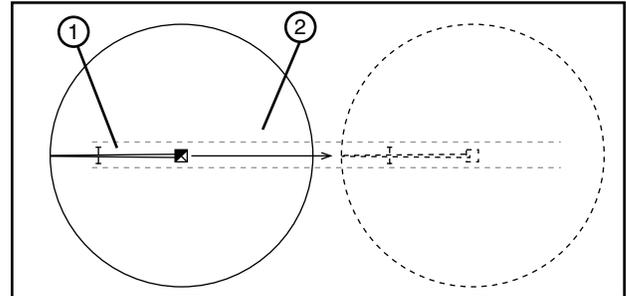

Figure 37-1 1. Machine
1. Position the machine in the tow lane. See Figure 37-1.